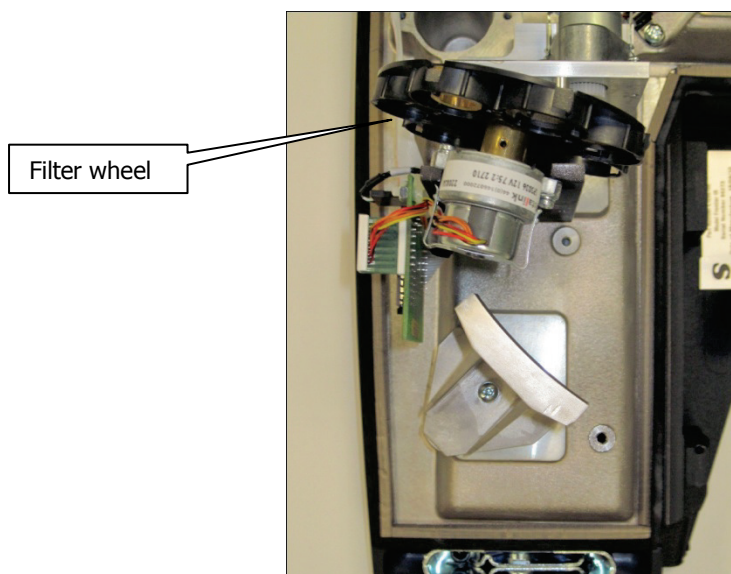

Figure 47 Filter wheel location
2. Open the main cover of the instrument as detailed on page 70 and identify the filter wheel (Figure 47).